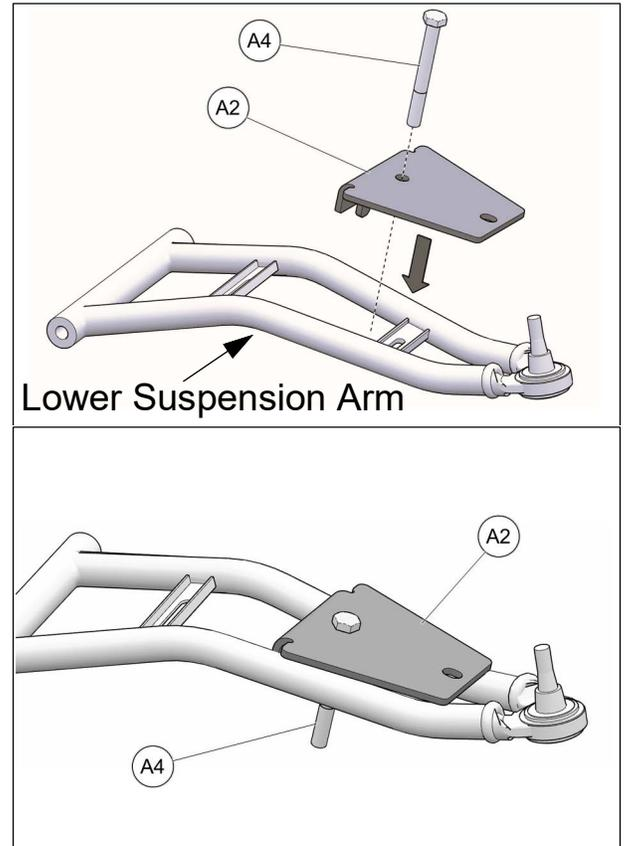

Fig. 18
5. Insert M10x90mm bolt (A4) in back end hole of anchor bracket cover (A2) and position these parts over lower front suspension arm as shown in Fig. 18